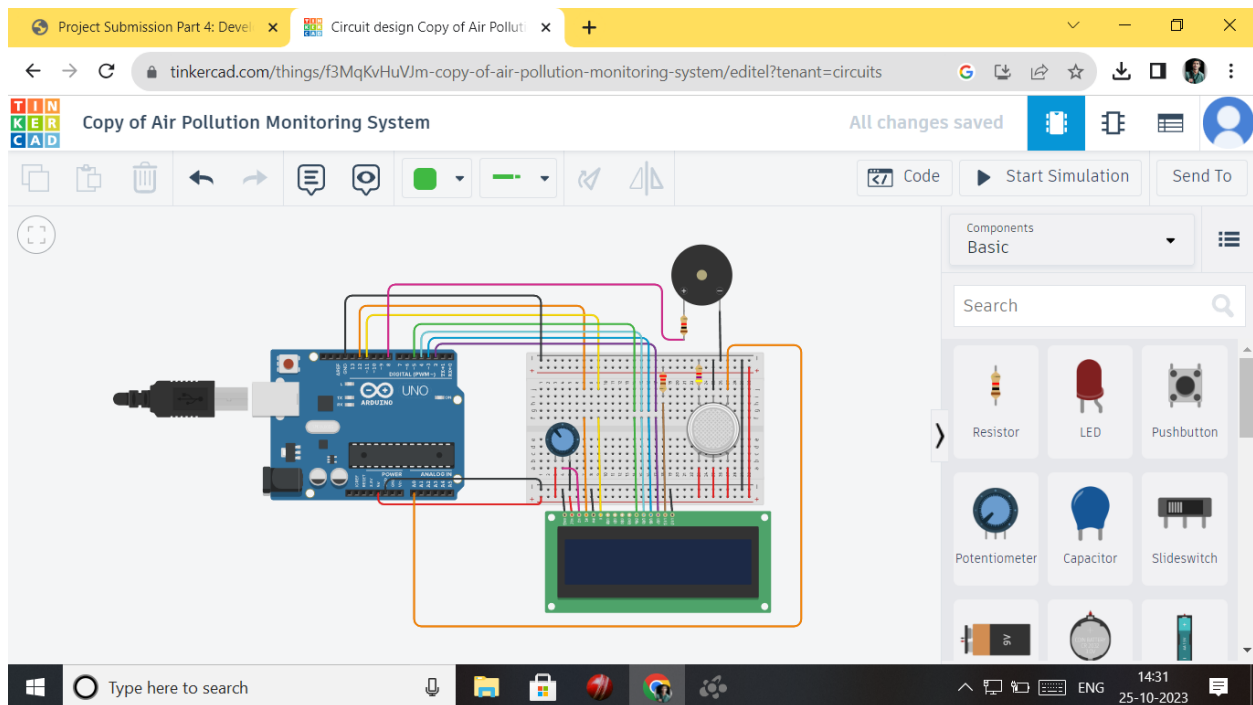

Fig.1.Cicuit diagram
- The above circuit diagram fig.1. illustrate ,Circuit diagram of Air quality monitoring.When air is pure the LCD does not display.